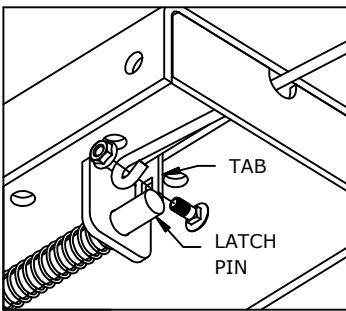

Figure F1.
1. **Install handle.** Install the latch pin release handle by inserting it through the slot in the end of the center section on the driver side of the truck. Align the handle eyelet with the square hole in the latch pin so the handle is in line with the latch as shown in Figure F1.